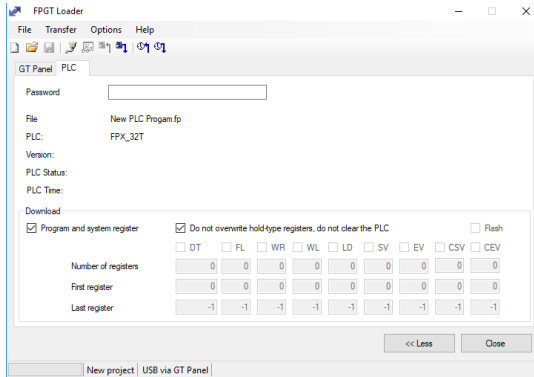

Figure 4
- 8) Double check that the correct file is shown and click the  download icon. (Figure 4)